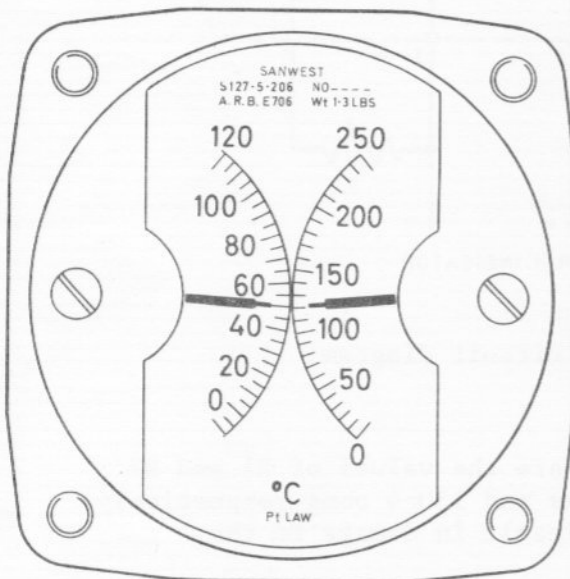

Fig.1 Indicator, Type S127.5.206
1. The indicator, Type S127.5.206 (fig.1) is calibrated in deg.C from -10 to +120 on the left hand scale and from 0 to +250 on the right hand scale. The captions, the figures and all dividing lines are finished white on a matt-black background: the pointers are also finished in white.